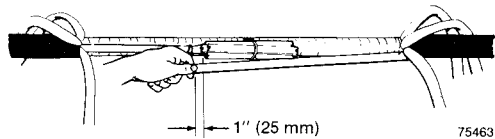

Fig. 83—Measuring second group location.
- i. Adjust head to either right or left of center modules. Pick a binder group from opposite side and swing an arc so that the module will fall approximately 1" (25 mm) from farthest edge of the center modules. See Figures 83 and 84.